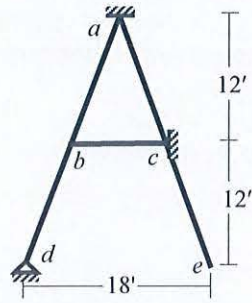

Fig.7
7. Calculate 1st natural frequency of the frame *abcde* shown in **Fig.7** using consistent mass matrices (Considering rotations at *b* and *d* only)